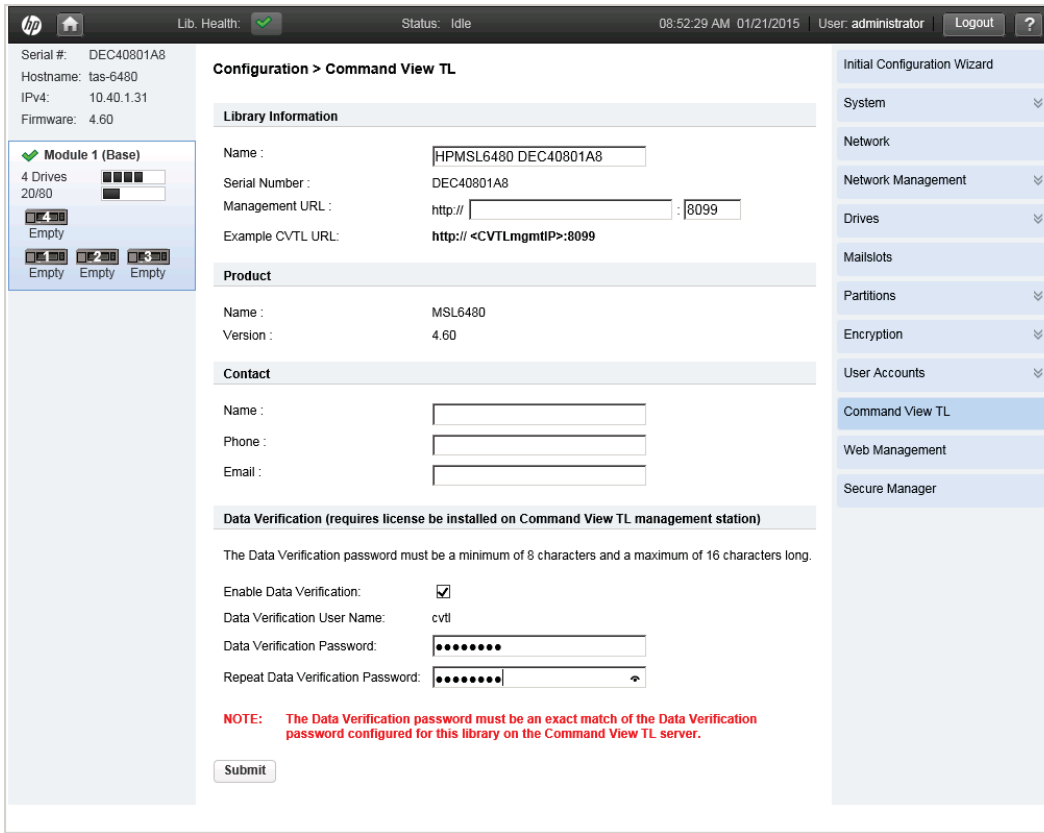

Figure 4. Enabling Data Verification for the MSL6480 Tape Library using the Web Management Interface
4. Click on **Submit** to update the settings. See **figure 4** as an example.